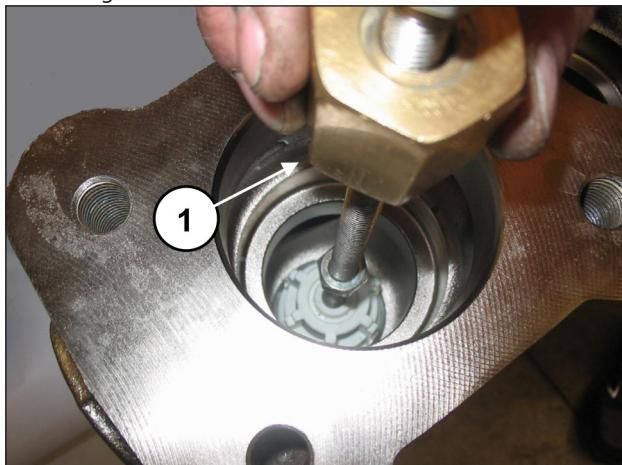

Fig. 112
Extract the suction valve unit with the use of an extractor hammer (code 27516400) to be applied on the M10 hole of the valve guide (pos. ①, Fig. 112) or, in addition, an M10-M16 adapter (code 25089700) to be attached to the M16 thread of the valve guide.